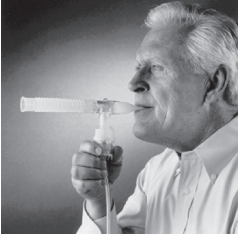

Figure 6: Mouthpiece
1. Close your mouth around the mouthpiece, but do not hold it with your teeth (Figure 6).